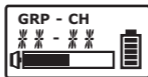

Fig. 8
- (C) Group and Channel setup are synchronized from the receiver via ACT sync button.
- (D) When a special channel is programmed via software, the LCD screen cannot display the appropriate numbers due to the special channel is not preprogrammed in the preset group and channel. \* \* - \* \* will replace actual numbers, Fig. 8.